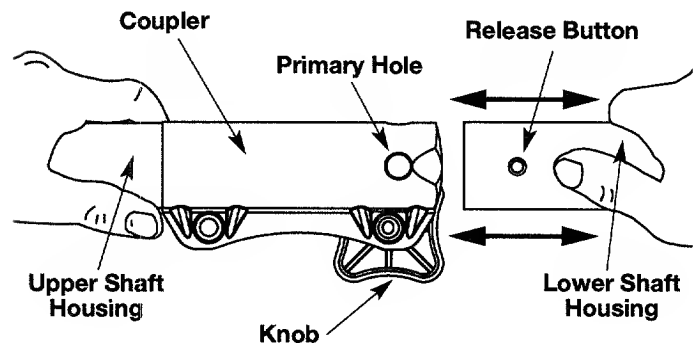

Fig. 2
3. While firmly holding the upper shaft housing, pull the snow thrower attachment out of the coupler (Fig. 2).
2. While firmly holding the add-on, push it straight into the coupler (Fig. 2).
CAUTION: Lock the release button in the primary hole (Fig. 2) and securely tighten the knob before operating this unit.